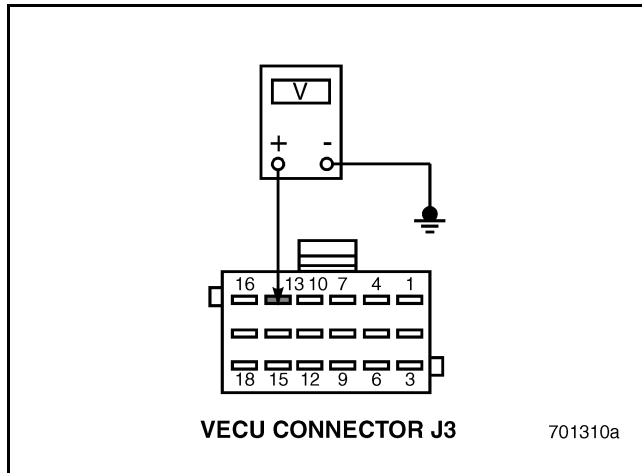

Figure 668
4. Measure the voltage between VECU connector J3 pin 13 and known good ground (see Figure 668).